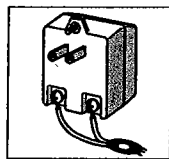
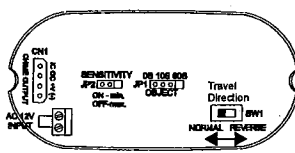

Fig. 4.5
Fig. 5
- 4.) Using the 6-ft power cord with in-line switch, connect the pre-stripped wires to the 12V AC 20VA transformer terminals (refer to Fig. 4.5). Strip the insulation on the opposite ends of the wires back approximately 1/4inch, and insert into transceiver terminals labeled 12V AC input (Refer to Fig. 5).
- 5.) The travel direction switch must be properly placed depending on where the infrared sensor/transmitter is installed (refer to Fig 5 ).